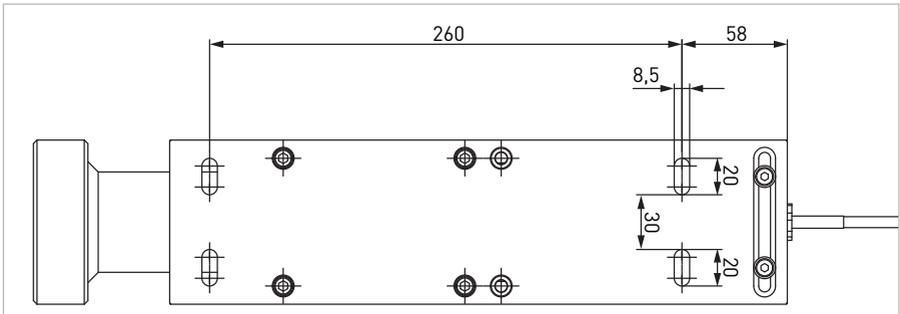

Figure 2
- ▶ Fasten the dispenser mounting onto the mounting holes on the fueling station (*Figure 2*).